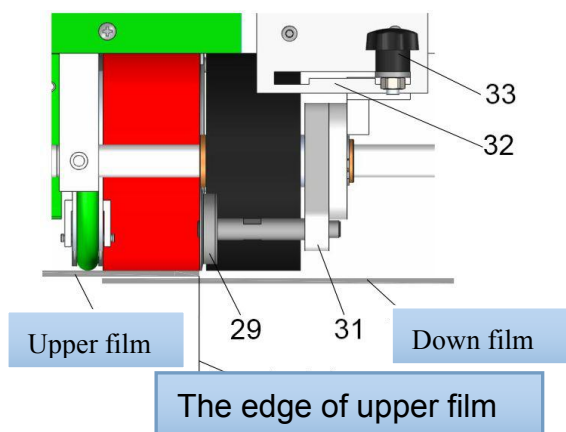

Figure 4
1. Depress handle (11) to lift machine, move it to welding position (the edge of upper film should keep in the same alignment with drive roller (2)), as shown in figure 4.
2. Lift guide bar ( 10 ) to make front wheel (left) (28 ) off the ground , slide handle of guide wheel (33) to right side until the right position of limit groove plate of guide wheel (32), to keep the guide wheel (29) in the same alignment with the edge of upper film.